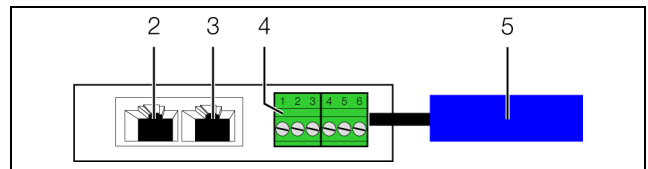

Fig. 8: Rear of the airflow sensor
- Connect the four colour-coded wires from the sensor-probe cable to the pins on the universal interface as follows (fig. 8, item 4).
- Use a CAN bus connection cable to connect the airflow sensor to a CAN bus interface on the CMC III Processing Unit or the neighbouring component on the CAN bus (fig. 8, item 2).
- If necessary, connect another component (e.g. another sensor type) to the second, free CAN bus interface of the airflow sensor (fig. 8, item 3).